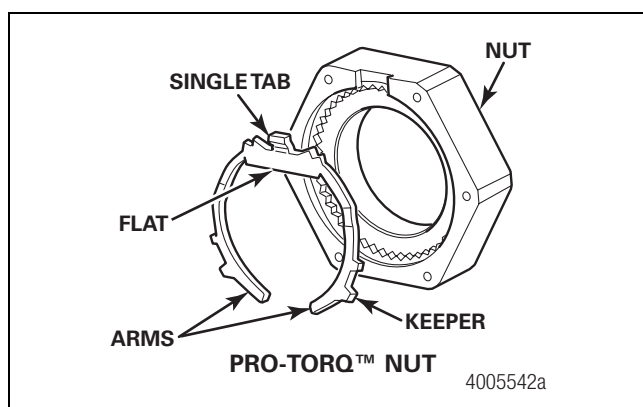

Figure 13.25
- Remove the keeper from the PRO-TORQ™ nut. Use a screwdriver to pry out the keeper arm from the groove on each side of the nut until the keeper is released. Meritor recommends replacing the keeper with a new one each time the PRO-TORQ™ nut is removed to maintain the integrity of the locking mechanism. Use a 3.5-inch (89 mm) socket wrench to remove the PRO-TORQ™ nut. Figure 13.25.